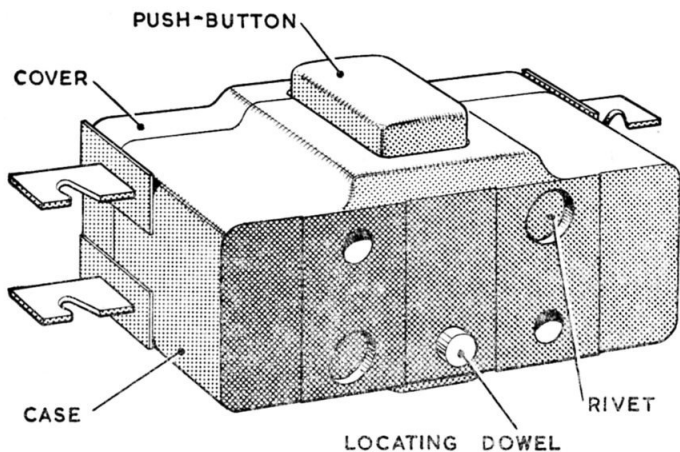
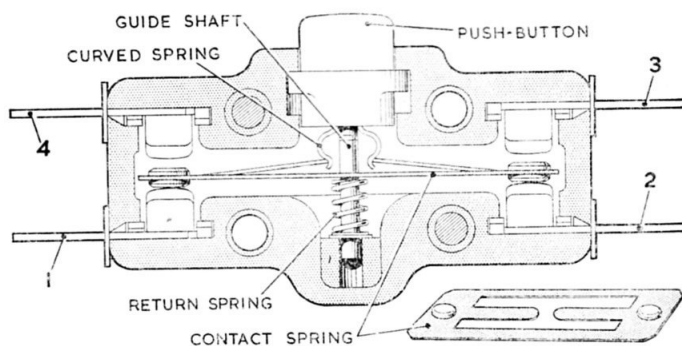

Fig. 1. Miniature switch, B.T.H. Type LHE.II-AI/I
Fig. 2. Section of miniature switch with detail of contact spring
2. The operating mechanism of the switch is housed in a moulded Bakelite case (*fig. 1*) and held in position by a Bakelite cover secured to the main case by two rivets. The four fixed contacts (1, 2, 3 and 4 *fig. 2*) are welded directly to metal strips which project through slots in the ends of case and act as the terminals. The contact spring with a contact fixed at each end is the connecting link between the contacts (1) and (2) in the free position, as shown in *fig. 2*, or between contacts (3) and (4) when the switch is tripped by pressing the push-button.
point, that is when they pass below the level of the two main strips of the contact spring. On releasing the push-button the return spring will return the mechanism to the free position shown in *fig. 2*.
6. The switches are secured on installation by screws passing through two holes 0.094 in. diameter. The mounting face of the switches has a small projecting locating dowel (*fig. 1*) which should engage with a hole when installed correctly. On the other face of the switch, directly opposite to the dowel, there is a small recess which is designed to locate the dowel of similar switches if it is required to assemble more than one switch on the same securing screws.